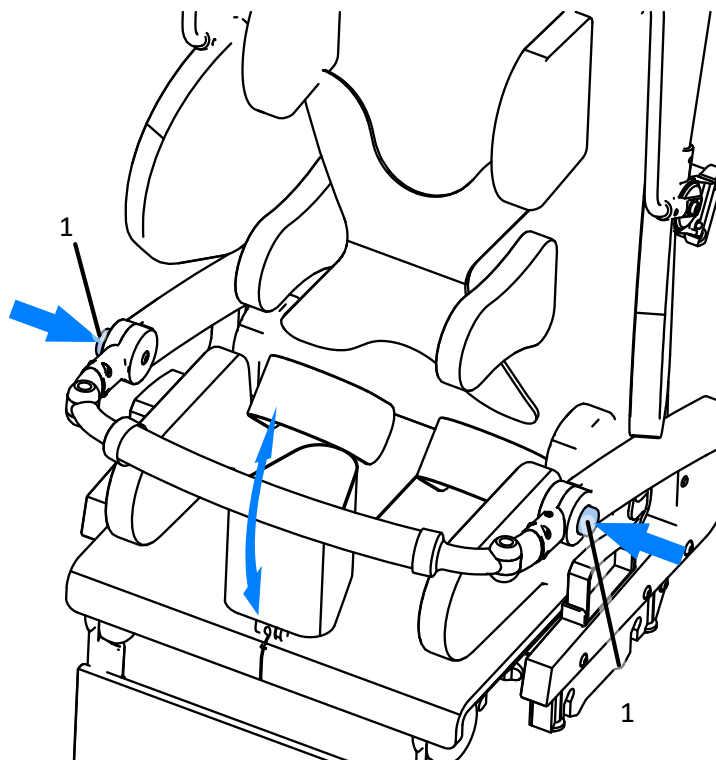

Fig. 25
In order to adjust the position of the safety barrier (2) press the buttons (1) of the angle adjustor on both sides of the seat Fig. 25. Set the desired position of the safety barrier. To secure the safety barrier in its position release the buttons and move the barrier up and down, until you hear a characteristic click sound.